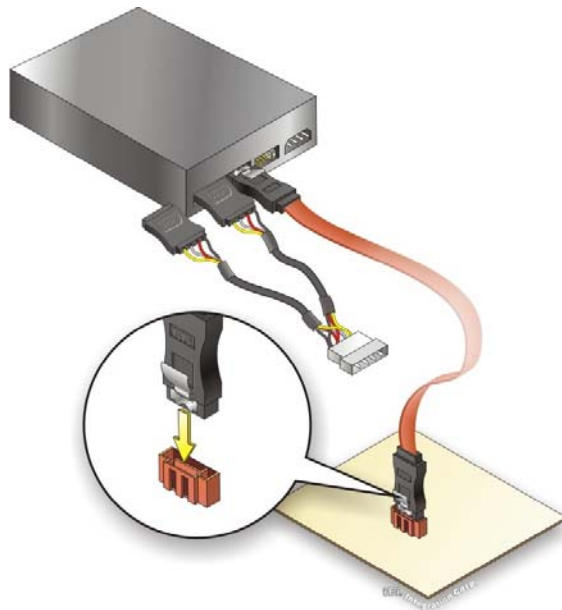

Figure 4-12: SATA Power Drive Connection
Step 3: Connect the cable to the SATA disk. Connect the connector on the other end of the cable to the connector at the back of the SATA drive. See **Figure 4-12**.
Step 4: Connect the SATA power cable (optional). Connect the SATA power connector to the back of the SATA drive. See **Figure 4-12**.